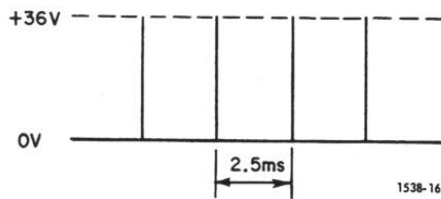

Figure 4-6. Voltage waveform at pin #3 of the panel EXT LAMP socket, S0901 (24,000 RPM).
- d. Observe the waveform at pin #3 of the panel EXT LAMP socket (S0901) and compare it with that of Figure 4-6. Improper waveform is caused by trouble in the trigger generator.
c. Compare the waveform at terminal #3 of the panel EXT LAMP socket with the waveform shown in Figure 4-6. A discrepancy in the waveform indicates a broken wire associated with the EXT LAMP socket, or malfunctioning of switch S903.